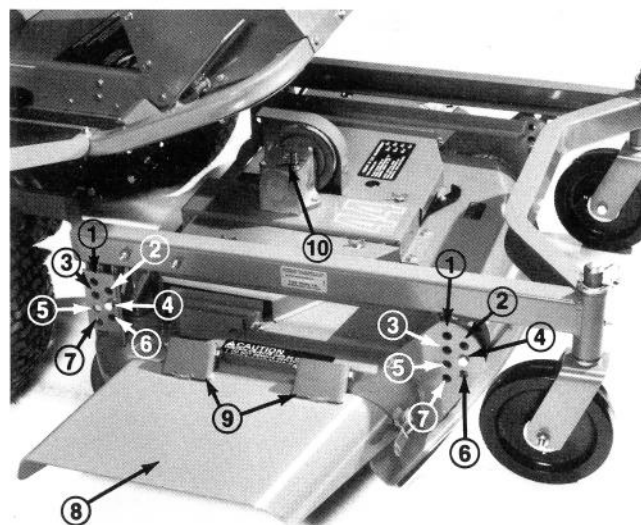

Figure 5
The height-of-cut is adjustable from 1 to 4 inches (25 to 102 mm) in 1/2 inch (13 mm) increments by relocating four clevis pins in different hole locations in brackets at each corner of the cutting unit (Fig. 5).
The grass deflector (Fig. 5) is a safety device that diverts grass and other foreign objects being discharged downwardly. WE STRONGLY RECOMMEND THAT THE DEFLECTOR BE IN THE LOWEST POSITION WHENEVER THE MACHINE IS USED NEAR BUILDINGS OR WHEN THERE ARE PEOPLE OR ANIMALS IN THE AREA. THE BLADES CAN THROW DEBRIS A CONSIDERABLE DISTANCE WITH SUFFICIENT FORCE TO CAUSE PERSONAL INJURY OR DAMAGE TO PROPERTY. THE ONLY TIME THE DEFLECTOR SHOULD BE IN THE UPPER POSITION IS WHEN THERE IS NO POSSIBILITY OF INJURY OR DAMAGE. NEVER OPERATE CUTTING UNIT WITH DEFLECTOR REMOVED FROM CUTTING UNIT OR MOVED TO MORE OPEN POSITION. NEVER CHANGE DEFLECTOR HEIGHT WHEN THE BLADES ARE TURNING. If the grass deflector is damaged, repair or replace the affected part(s).
2. After every 50 hours of operation, lower cutting unit so castor wheels are on a level surface. Be sure all height-of-cut pins are in the same hole locations. Clean area around gear box cover (Fig. 5) to prevent contaminants from entering gear box. Remove screws securing cover to gear box and remove cover. Check level of lubricant in gear box. If level of lubricant is low, add SAE E.P. 90 wt. oil until oil level is up to horizontal shaft (input) of gear box. Check condition of gasket and replace if damaged or worn.